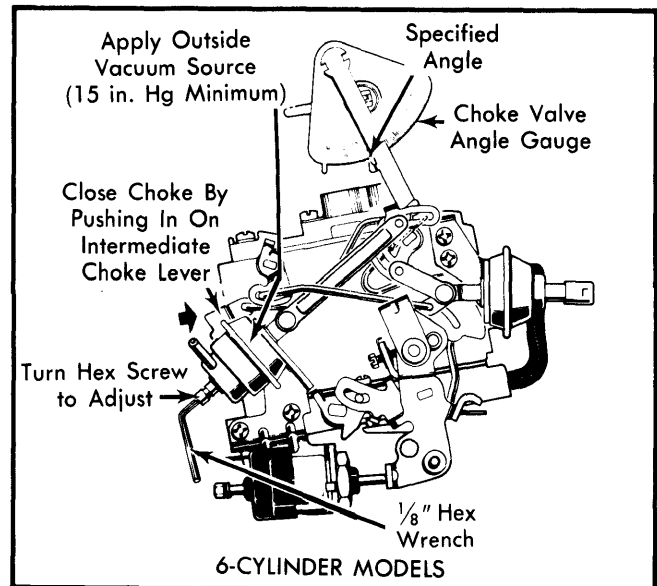

Fig. 8 Adjusting Secondary (Rear) Vacuum Break
1) Using an outside vacuum source of at least 15 in. Hg, seat secondary choke vacuum break diaphragm. See Fig. 8.